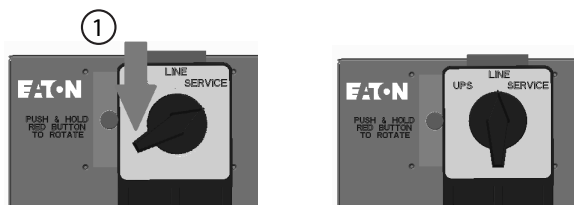

Figure 22. From SERVICE to LINE
1. Turn the switch from SERVICE to LINE (see Figure 22).